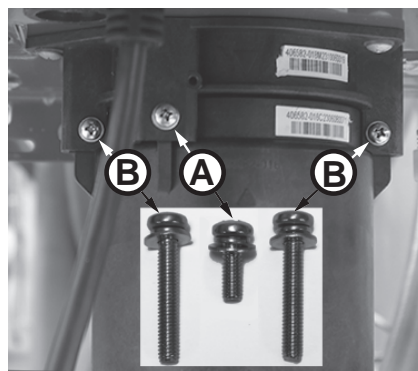

Figure 243 - Identify cartridge screws
- 5 Locate the three (3) screws securing the X3®/Bypass cartridge as shown in Figure 243. Remove the (A) M4-12mm screw and the two (B) M4-25mm screws from cartridge. Place screws aside in a safe place for reinstallation.